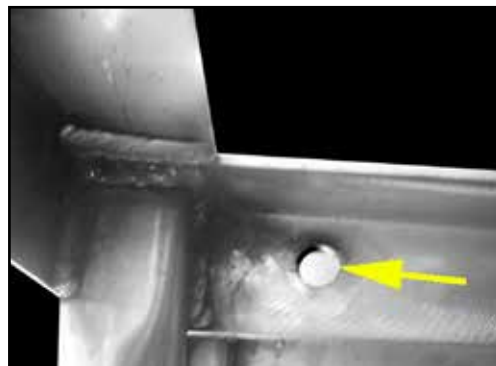

Fig. 3 -
- There are three bolts along the base (Fig. 3), and twenty bolts around the hood. Use 5/16 x 3/4" bolts for the hood and 1/2 -13 x 1" for the base. Tighten the bolts in a manner that ensures the sections mate evenly.